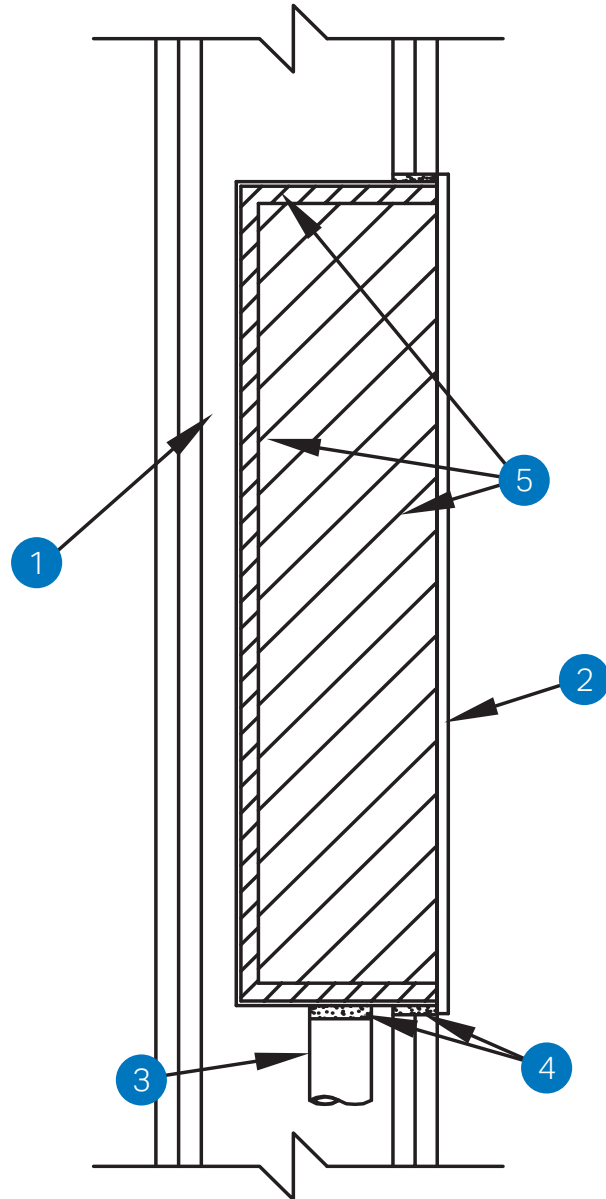

Figure 2 – Engineering Judgment for gypsum panel box around fixture and water tank.
- An engineering judgment (EJ) for this approach has been developed by 3M Company for a 1-hr rated wall. An image of the detail is shown in Figure 2. The complete EJ can be found in Appendix A.